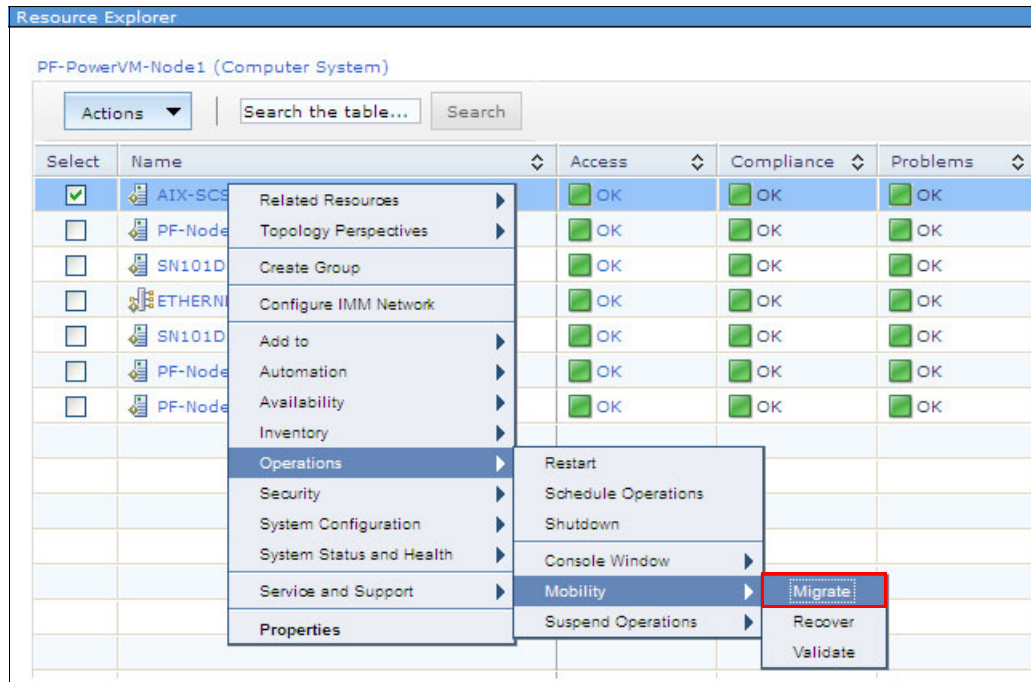

Figure 10-167 Launch the relocation of a virtual server
6. From the Resource Explorer, click **Migrate** as shown in Figure 10-167.